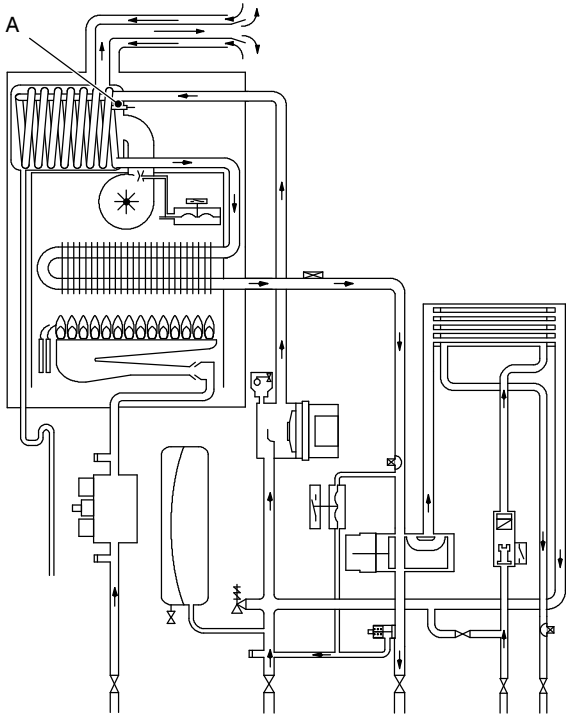
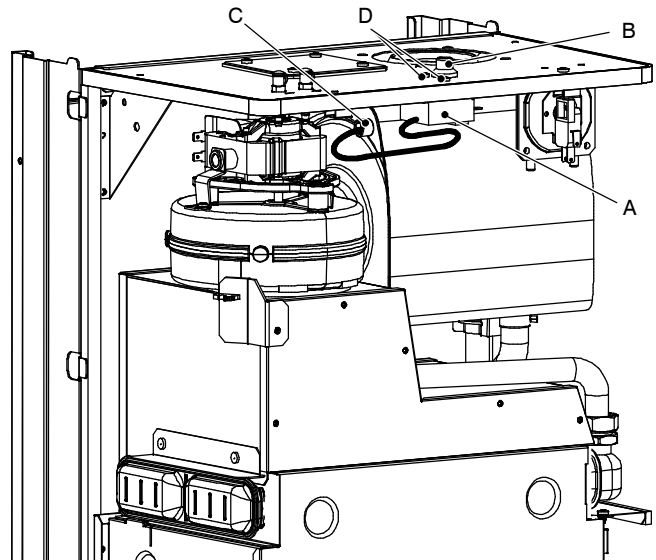

Fig. 81
Fig. 82
The Flue thermostat *A* in Fig. 81 and Fig. 82 senses the temperature of the combustion products that flow through the condensing heat exchanger.
The reset push-button is located on the top of the boiler under a protective cap *B* in Fig. 82 and can be reached by unscrewing the cap.
- 3 Unscrew and remove the thermostat probe *C* (Fig. 82) from the condensing heat exchanger.